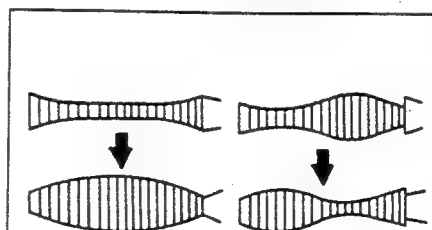

Fig. 2-8 Abnormal Waveform Variation
- If the envelope varies as shown in Fig. 2-8, adjustment of the S-Guide Roller and the T-Guide Roller may be upset and then perform the adjustment again.